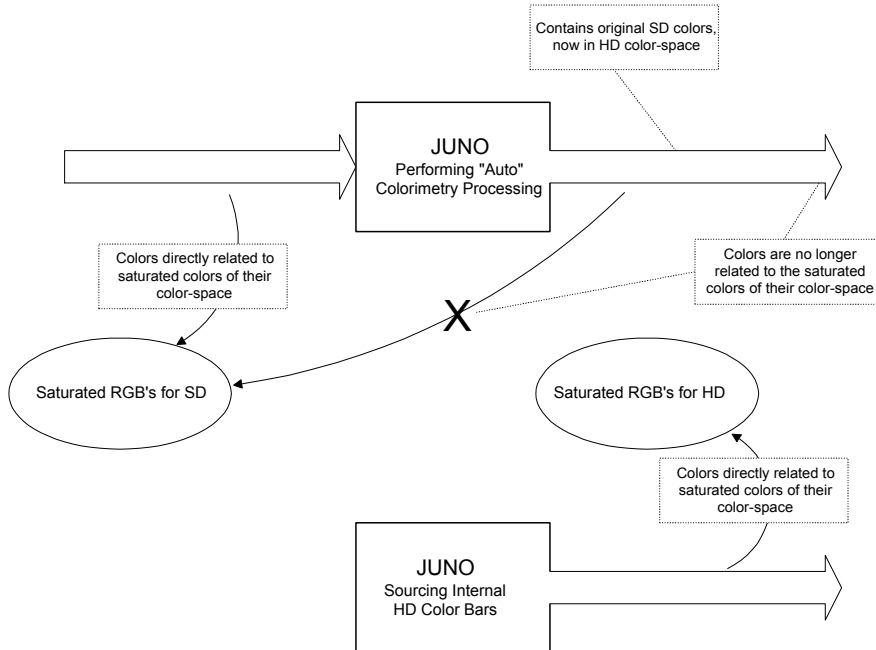

Figure B-3. SD Color Bars Through Juno Versus Internal Juno HD Color Bars
In Figure B-3, the input SD color bars are directly related to the saturated RGB primaries of their SD color-space. The emerging colorimetry-processed color-bar waveform is no longer related to the saturated colors of the new (HD) color-space. (This broken relationship is shown by the "X" in the center of the diagram). Rather, it is the internal Upconverter HD color bars test pattern which is now directly related to the saturated colors of the new (HD) color-space.